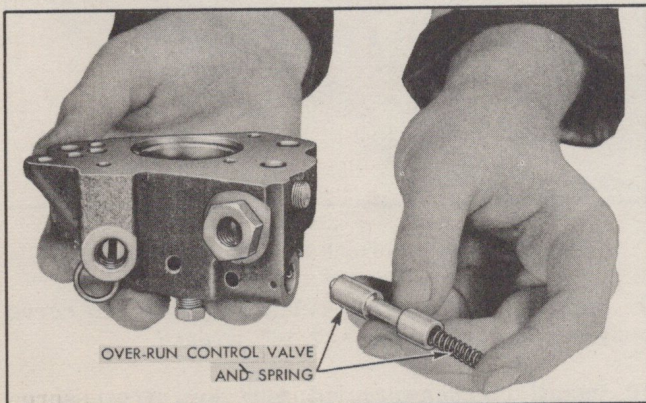

Fig. 28 Removing Over-Run Control Valve
7. Remove over-run control valve spring and valve (see Fig. 28).
4. Install over-run control valve, spring, and new stop pin (see Fig. 28).